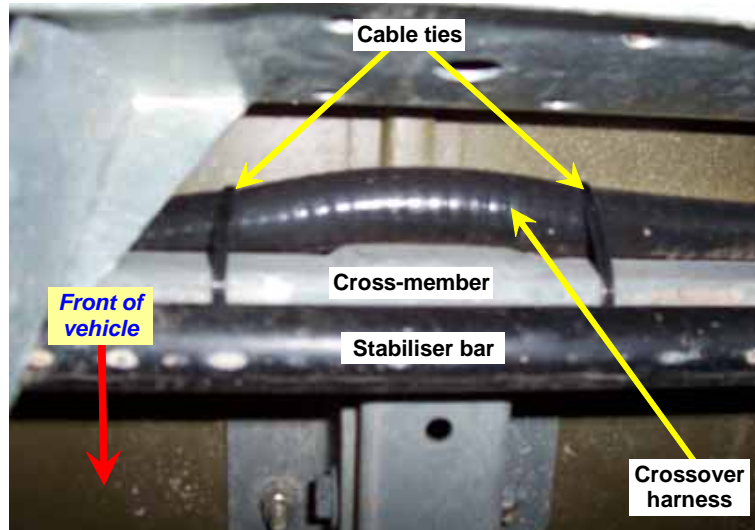

Figure 34 Securing the Centre of the Crossover Harness
- (2) Use cable ties (Table 1, Item 87) to secure the conduit centre section of the harness to the chassis cross-member between the body support brackets as shown in Figure 34.